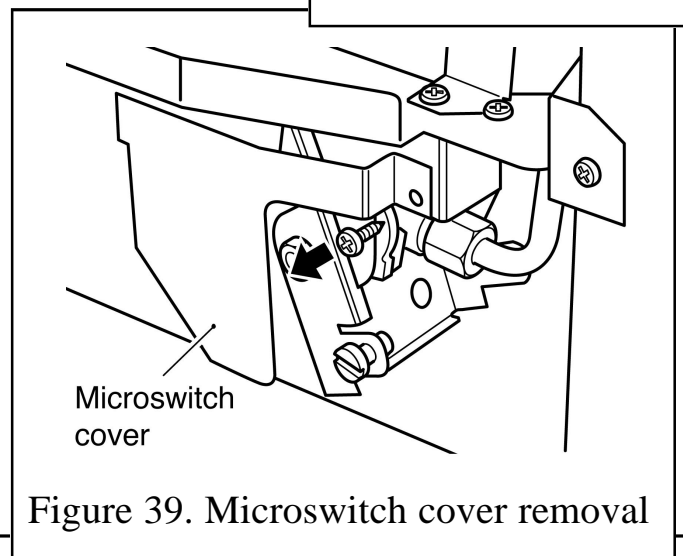

Figure 39. Microswitch cover removal
(See figures 39 & 40).
2. Detach the microswitch cover by removing one screw and pulling clear of the location lug (See figure 39).
(See figures 39, 40 & 41).